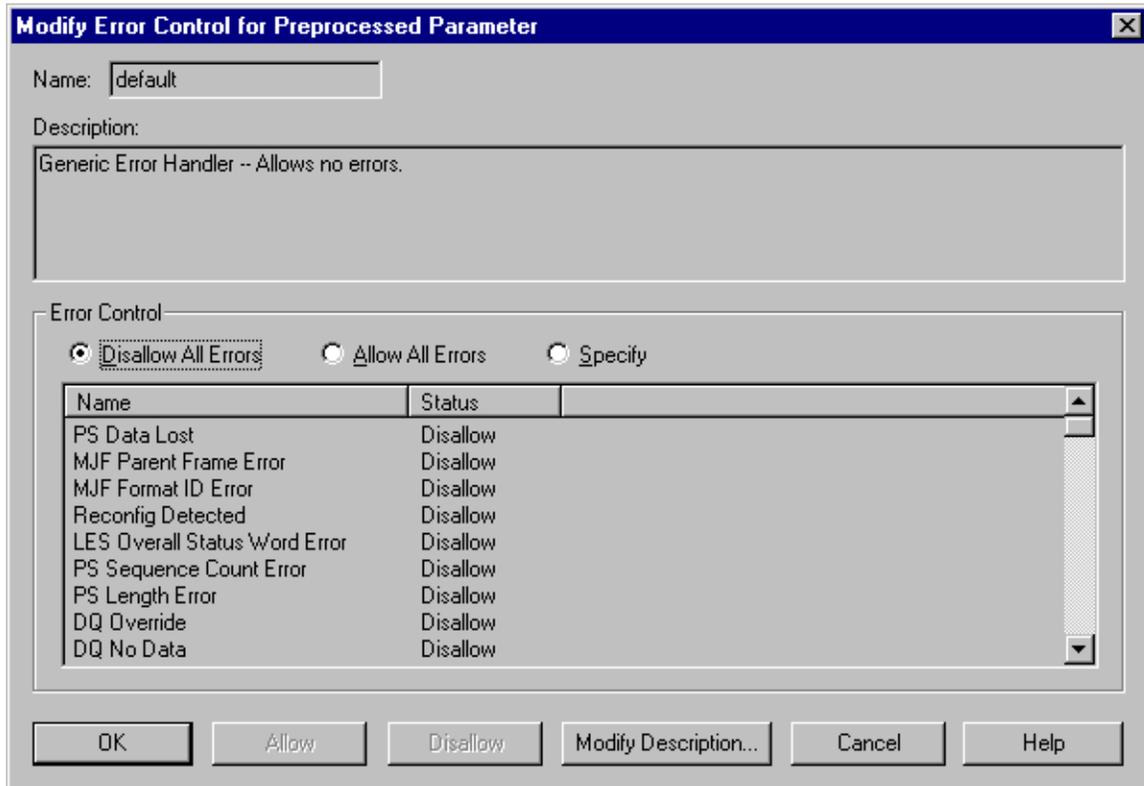

Figure 26 Default Error Control Object
4. Lets take a look at the default Error Control object. A default Error Control object is available so you won't have to create one. Go to the **Processing** menu and select **Error Control for Preprocessed Parameters**. This dialog will show you a list of all the Error Control objects. Currently the default Error Control object is the only one available. Select the default item in the list and push the **Modify** button. The dialog shown in Figure 26 will be displayed on your screen.